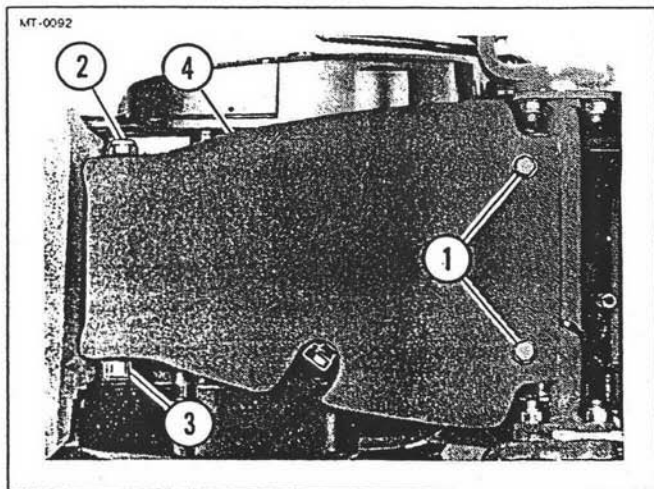

Figure 3-8. Engine Sieve Cover Guard
2. See Figure 3-8. Using a 13 mm wrench, remove screws (1), two lock washers, and flat washers.
6. See Figure 3-8. Using an 8 mm hex key and a 17 mm box wrench, install sump guard (4), flat washer, socket head bolt (3), flat washer, and new self-locking nut (2).
7. Using a 13 mm wrench, install flat washers, lock washers, and screws (1) to secure guard to vehicle frame.